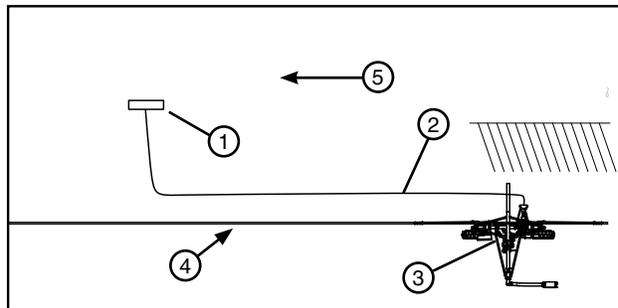

Figure 76-1 1. Power Pedestal
- (b) Position the electric cord between the cart and power pedestal so that it does not interfere with the furrow guidance arms if applicable. See Figure 76-1.